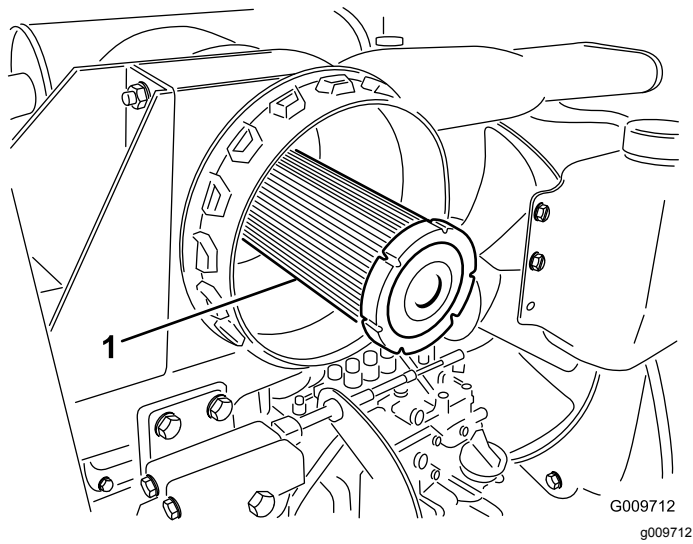

**Figure 89**
1. Replace the air cleaner (Figure 89).